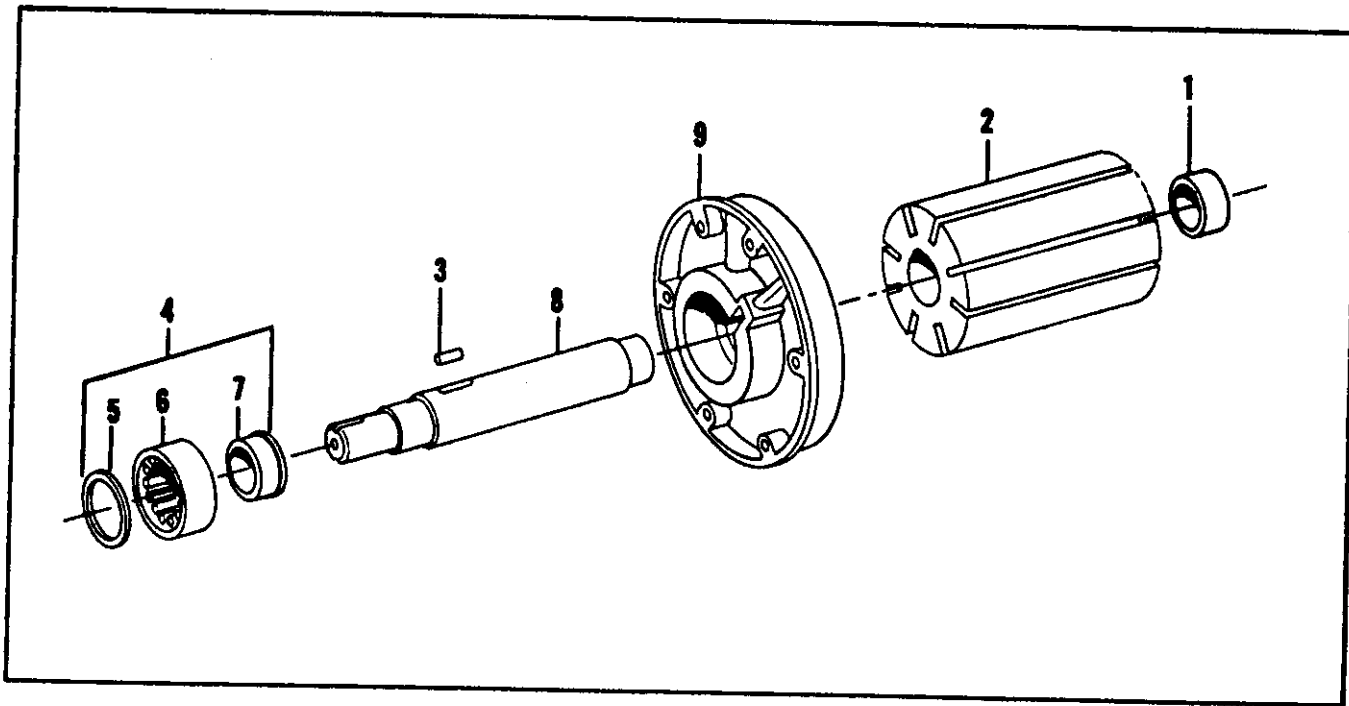

Figure 3-3. Rotor assembly
Do not disassemble rotor and drive end cover assembly (90 through 94) and inner race of bearing (56) unless it is determined that a part must be replaced. To disassemble rotor and drive end cover assembly, refer to figure 3-3. Remove nondrive end bearing inner race by first applying a suitable gear puller. If inner race fails to move, apply heat from a torch and heat the inner race evenly. Apply gear puller and remove race.
b. Remove minor nicks or scratches from machined surfaces of rotor (2, Fig. 3-3) and stator (103, Fig. 5-19) with a fine honing stone or emery cloth. If extremely scored or galled, replace damaged parts.
a. Coat O-rings, blades, and internal machined parts with clean lubricating oil at time of reassembly. Reassemble rotor (Fig. 3-3 and 3-4) with the following instructions.